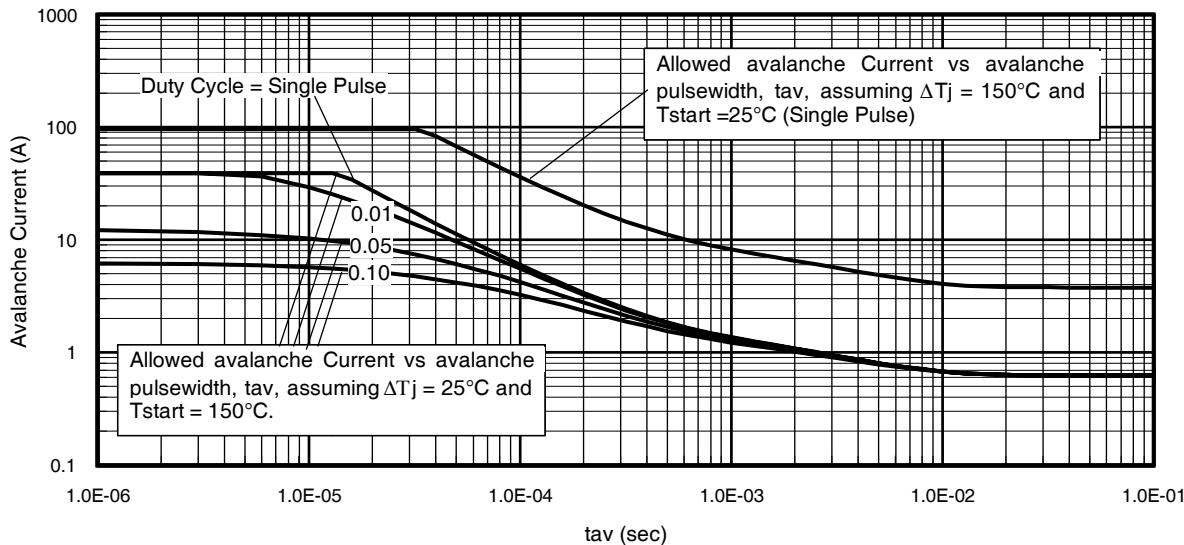

Fig 14. Typical Avalanche Current vs.Pulsewidth
Notes on Repetitive Avalanche Curves , Figures 14, 15:
7.  $\Delta T$  = Allowable rise in junction temperature, not to exceed  $T_{jmax}$  (assumed as  $25^\circ C$  in Figure 14, 15).